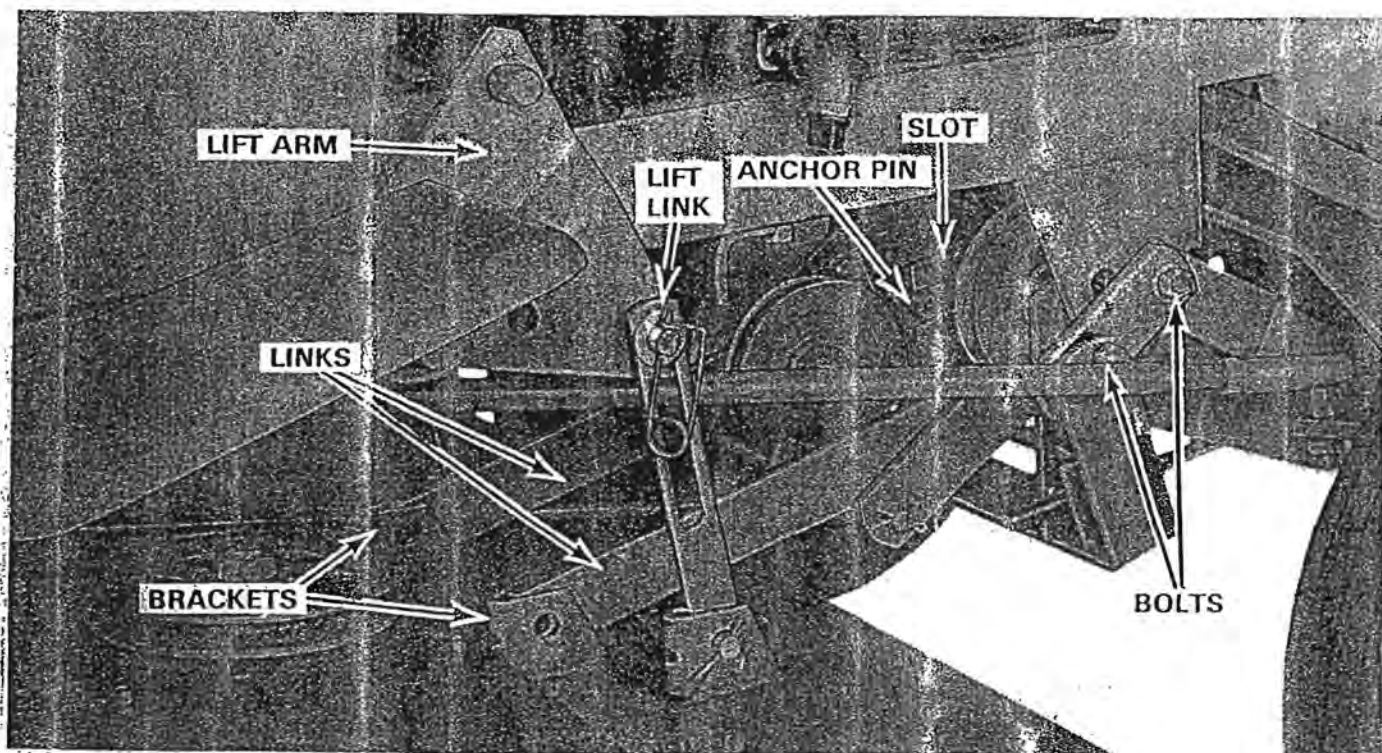

FIGURE 18
3. Install the front mounting bracket by lifting the front of the mounting bracket high while guiding the nuts that secure the anchor pins between the two bolts on the bracket. See Figure 18.